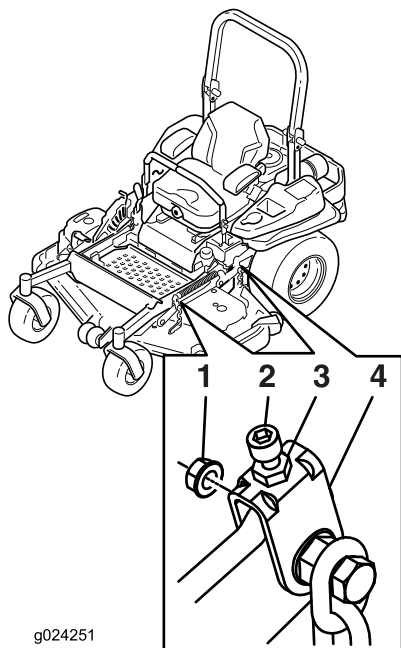

Figure 91
9. If needed, loosen the whizlock nut on the side of the yoke and the jam nut on top. Fine tune the screw adjuster by turning it to get 76 mm (3 inches) height (see Figure 91).
15. Fine tune the screw adjuster by turning it to get 8.3 mm (3-1/4 inches) height (Figure 91).